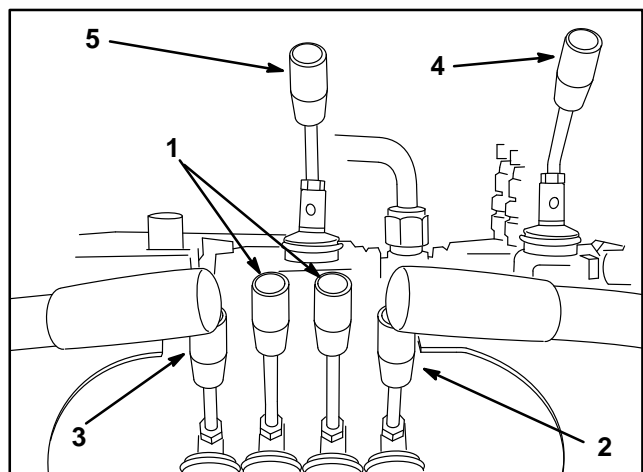

Figure 5
Become familiar with all the controls (Fig. 5) before you start the engine and operate the machine.
1. To go forward, slowly push the traction control levers forward (Fig. 5).
To go straight, apply equal pressure to both traction control levers (Fig. 5).
To turn, decrease pressure on the traction control lever toward the direction you want to turn (Fig. 5).
1. To go backward, slowly pull the traction control levers rearward (Fig. 5).